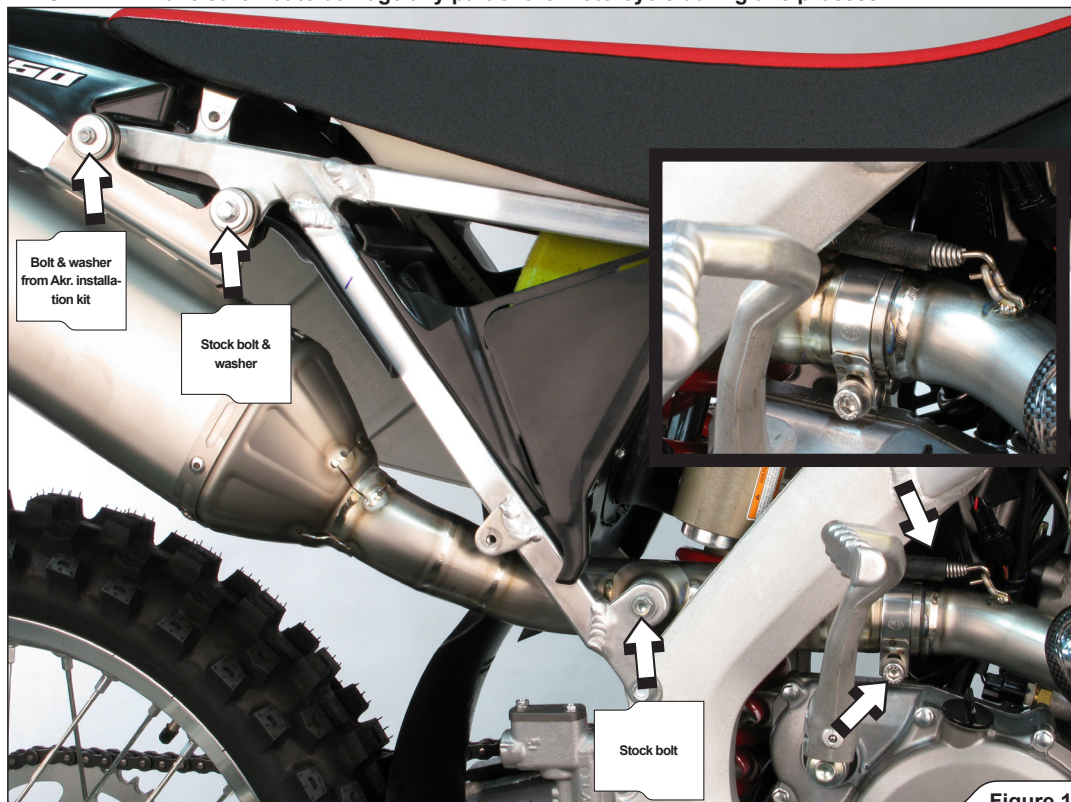

Figure 13
7. Carefully slide the muffler onto the outlet side of the header pipe. Hand tighten the muffler's bracket bolts, link pipe's bracket bolt, clamp and attach the longer spring from Akrapovič installation kit, as shown (Figure 13).